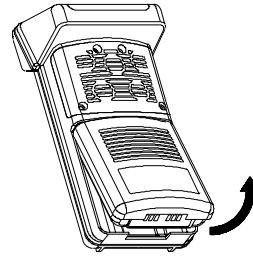

Figure 3-1.
2. Pull out the battery pack by gripping it at the edge of the battery pack case and pulling it away from the unit (FIGURE 3-1).